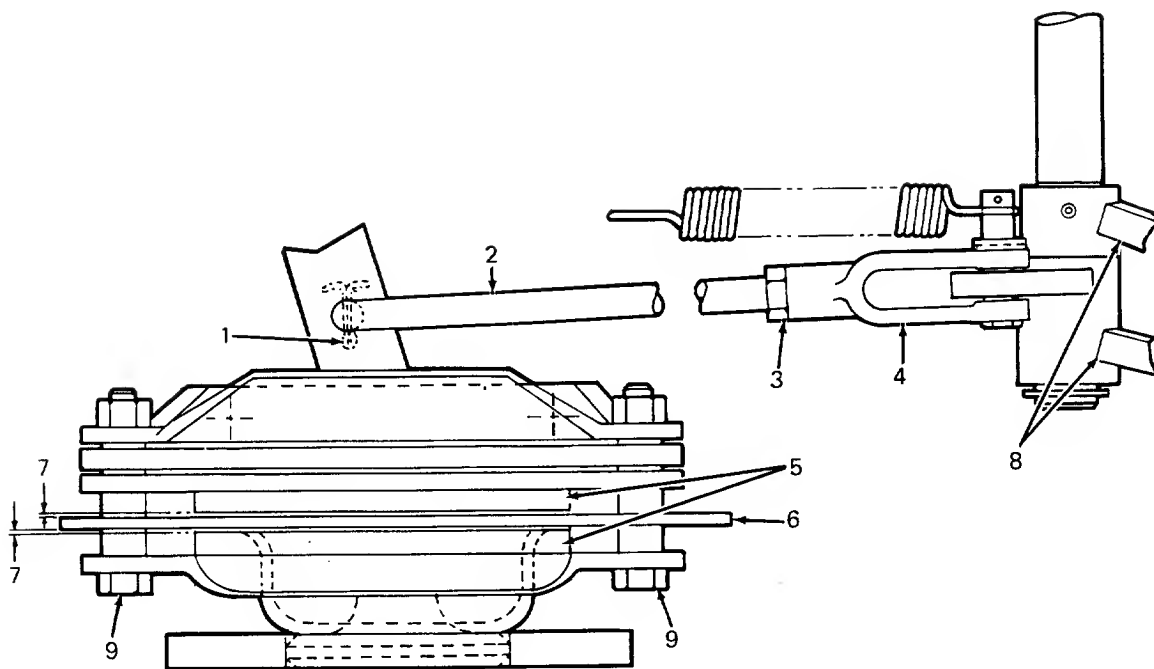

Figure 27. Right Side Shown
2. With the 1 inch thick wood block installed, the brake disc pads should be applying a light amount of friction against the brake disc rotor. If they are not, the brakes need adjustment (see Figure 27).
Brake adjustment: (See Figure 27)